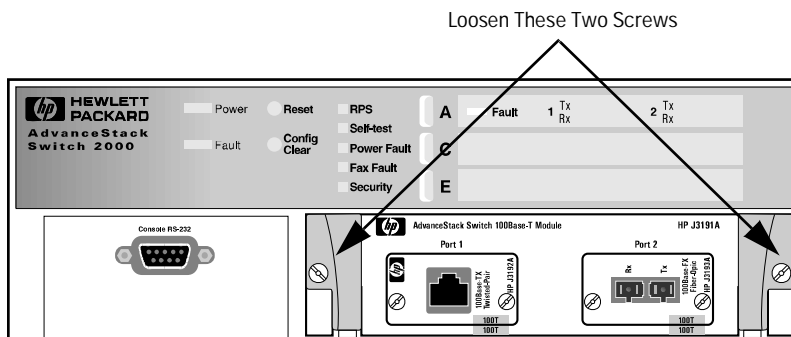

Figure 10. Removing the Module from the Slot
2. Loosen the screws in the extractor handles of the module you want to remove from the switch. (Refer to figure 10, above.)